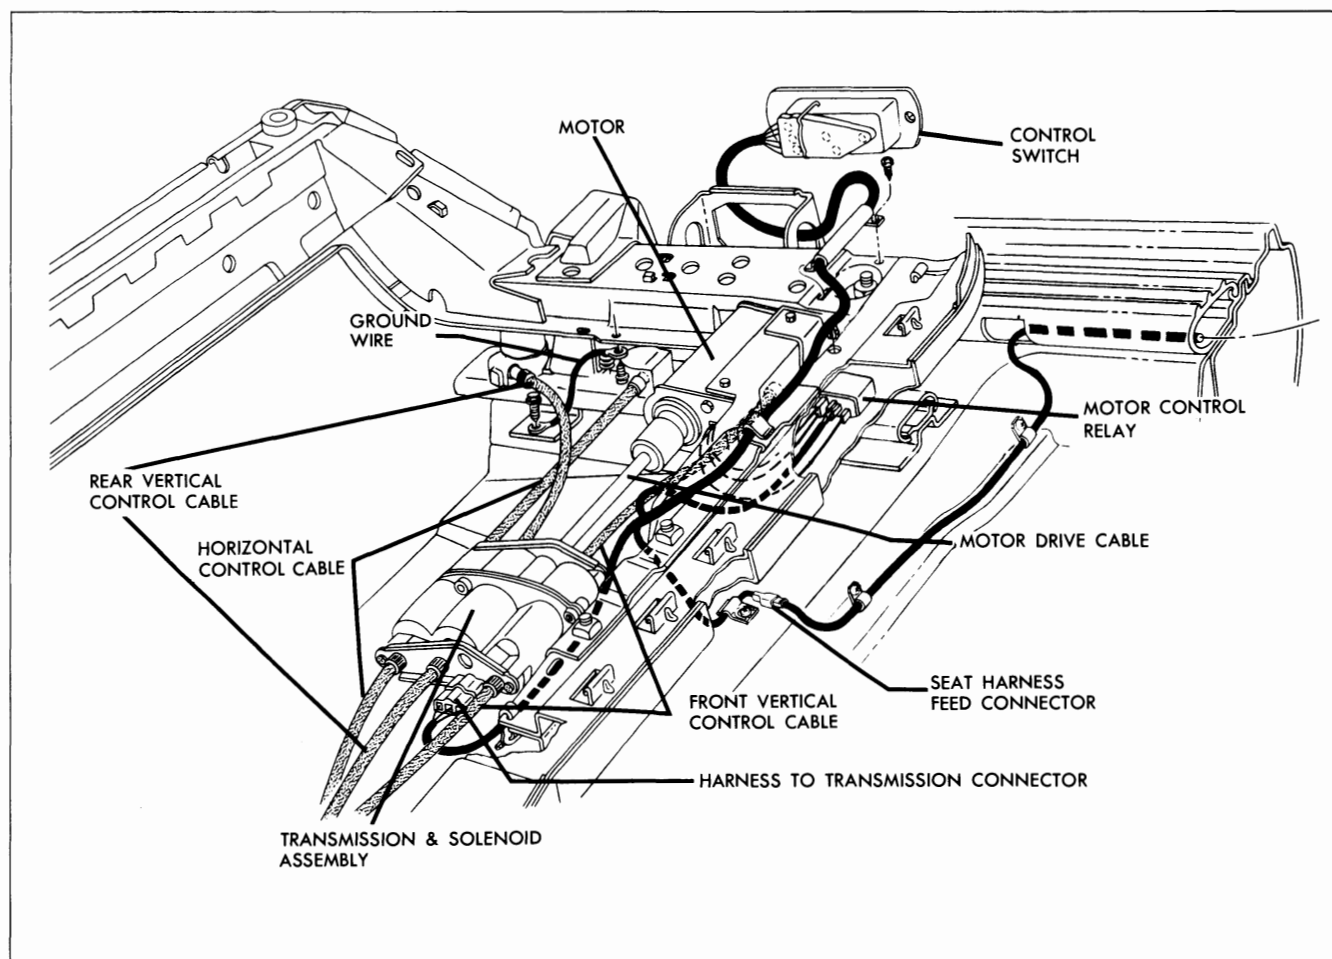

Fig. 8-7 Electrical Control Diagram
The center solenoid operates the blue drive cable which controls the vertical movement of the rear of the seat. The rear solenoid operates the black drive cable which controls the horizontal movement of the seat, and the front solenoid operates the yellow drive cable which controls the vertical movement of the front of the seat (Fig. 8-7).
1. Detach three power drive cables from adjuster to be removed (Fig. 8-7).
1. Disconnect motor feed wires from motor control relay (Fig. 8-7).
3. To install horizontal and vertical cables, reverse removal procedure. Drive cables must be installed to proper gearnuts and horizontal actuator as shown in figure 8-7.
1. Disconnect harness connector from transmission (Fig. 8-7).